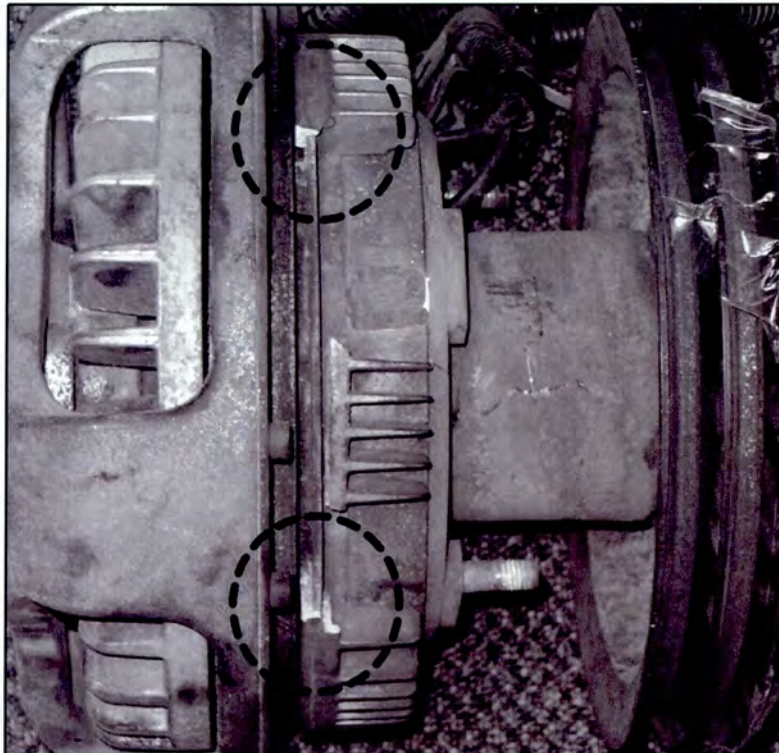

Figure 2. Reference photo of missing portion of cooling ring fins.
7. Visually inspect the entire fan clutch cooling ring (cooling ring will spin freely with the belt removed) for evidence of stress cracks and/or missing portions of the fins (refer to Figure 2 below, in addition to the attached Linnig Service Bulletin / Checking for Defective Cooling Ring on Linnig Fan Clutch).